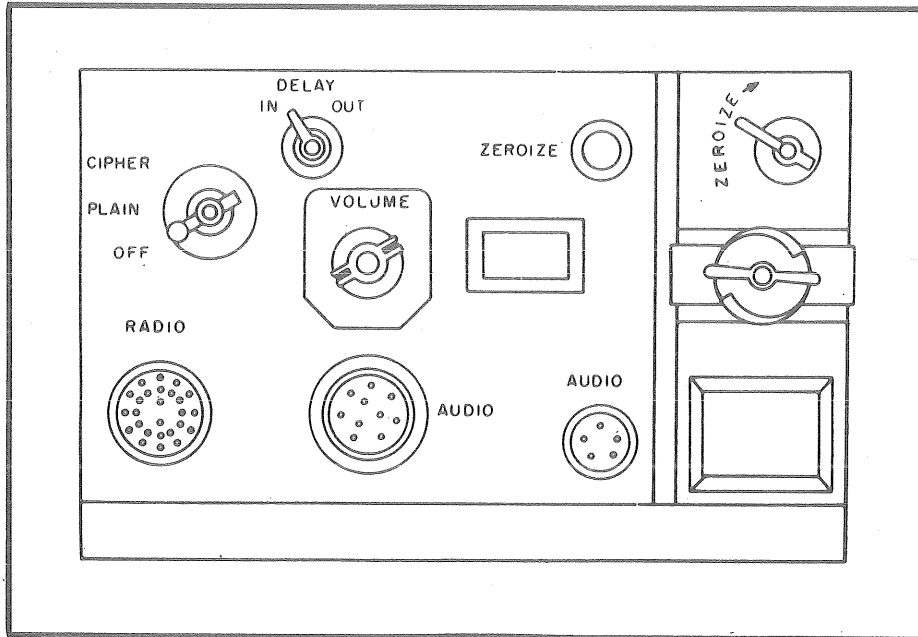

Figure 3. TSEC/KY-38 controls and indicators.
6. Place the system into operation. (Refer to fig 3.)